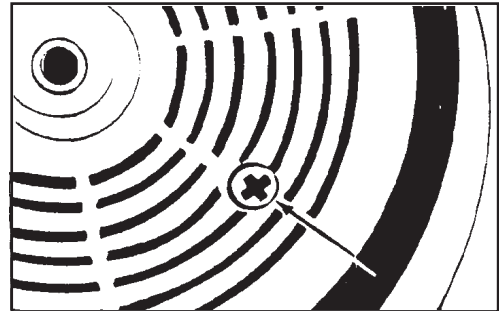

Figure 12
3. Align both holes with one of the three screws in the gear housing cover. Remove the screw from the gear housing cover. See figure 12.